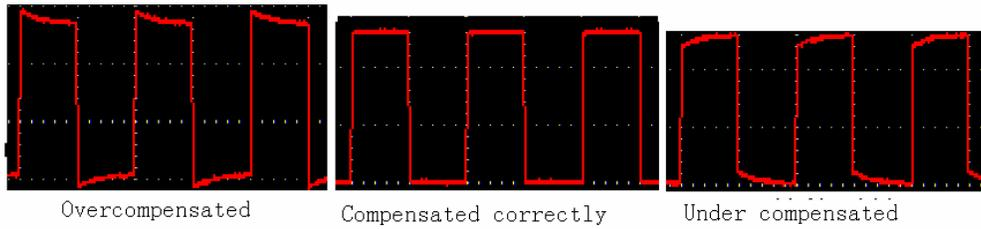
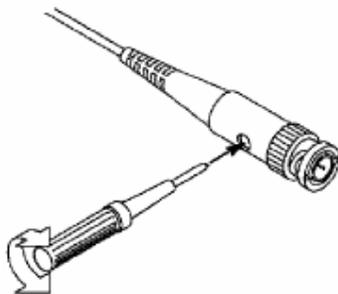

Fig. 7 Displayed Wave Forms of the Probe Compensation
Fig. 8 Adjust Probe
2. Check the displayed wave forms and adjust by plastic screw driver provided with the probe till a correct compensation is achieved (see Fig. 7 and Fig. 8).